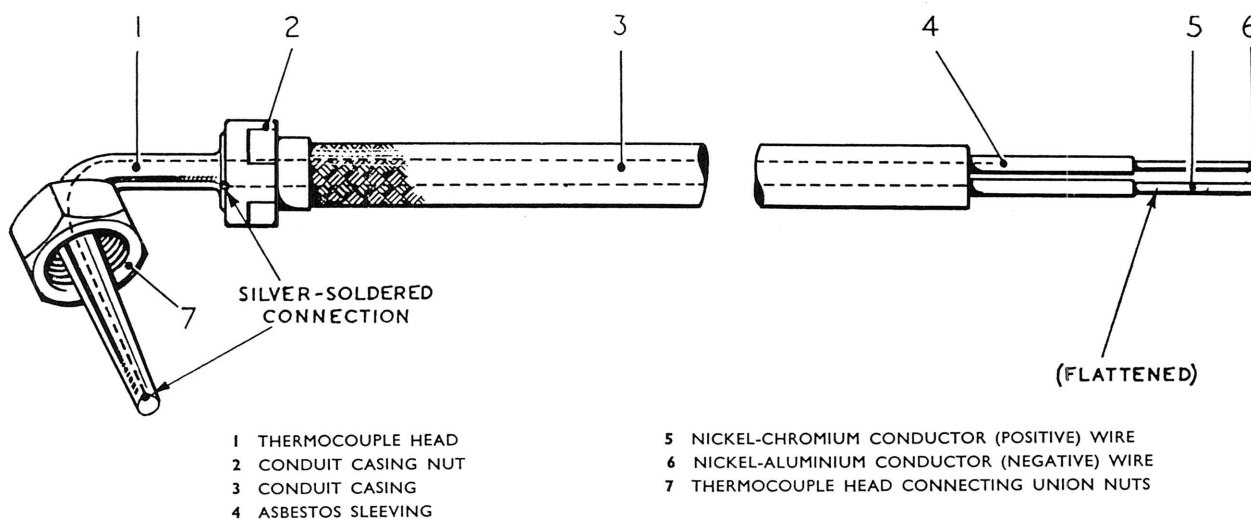

Fig. 1. View of thermocouple hot junction unit, as used on Goblin 2 engine, showing internal wiring
5. Referring to fig. 1, the thermocouple unit consists of two conductors, one (5) of nickel-
6. The nickel-chromium conductor (5) is silver-soldered to a threaded collar as shown in fig. 1, the collar being integral with the head, whilst the nickel-aluminium conductor (6) is passed through the bore of the thermocouple head and silver-soldered at the tip, which is chamfered off at approximately 45 deg. The nickel-aluminium conductor is insulated from the internal surface of the head by ceramic beading.
7. The leads to the hot junction are insulated by fireclay-impregnated asbestos sleeving (4) and are protected by an oil-resisting armoured flexible conduit (3). This conduit carries a nut (2), which is first screwed on to the threaded collar and then silver-soldered to effect a permanent joint.